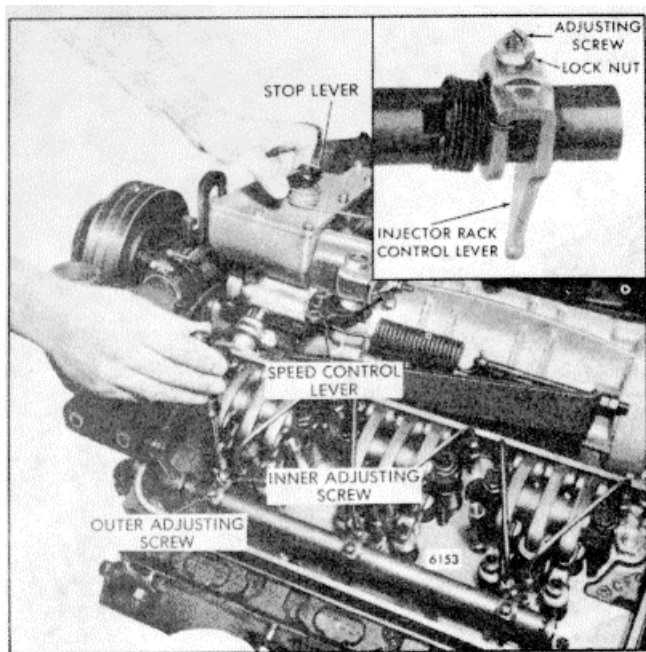

Fig. 2. - Positioning No. 1 Injector Rack Control Lever
4. Move the stop lever to the run position and hold it in that position with light finger pressure. Tighten the adjusting screw of the No. 1L injector rack control lever until the injector rack clevis is observed to roll up or an increase in effort to turn the screwdriver is noted (Fig. 2). Tighten the screw approximately 1/8 of a turn more and lock securely with the adjusting screw